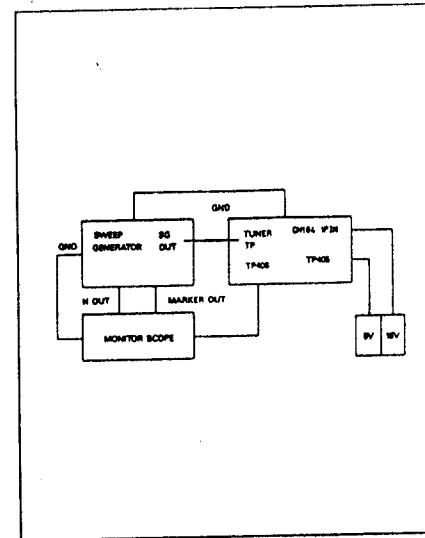

Fig. 14 Composition for VIF Adjustment
- 4) Connect the Sweep Generator Output to tuner TP within the Tuner unit. (Fig. 14)